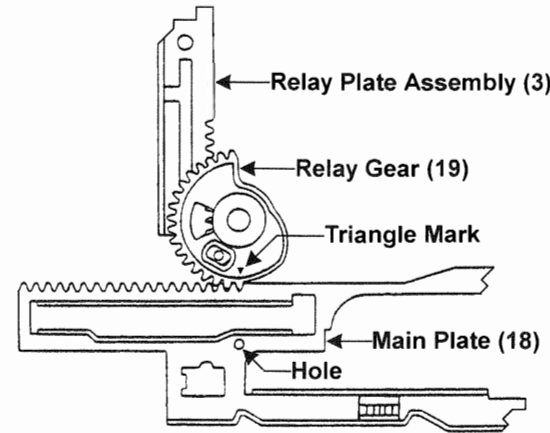

Figure 3
Align the hole on the main plate (18) with the hole on the main base assembly (1). Align the triangle mark on the relay gear (19) with the last tooth of the main plate. Make sure the teeth of the relay plate assembly (3) engage with the teeth of the relay gear. See figure 3.